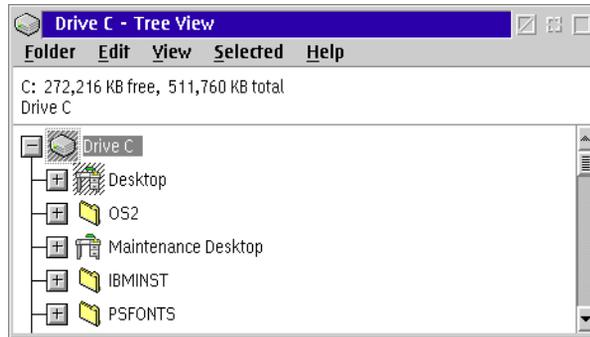

Figure 59 Drive C - Tree View
- At the open drawer, click the *Drive C* button. The *Drive C - Tree View* displays (Figure 59).